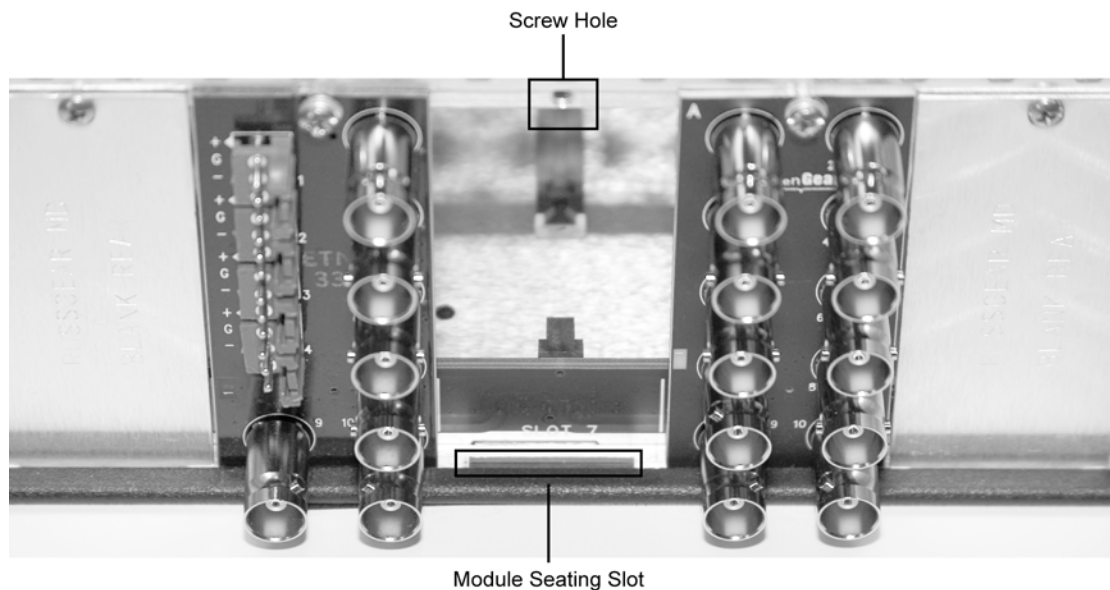

Figure 3. Rear Module Installation in a DFR-8310 Series Frame (UDA-8705A not shown)
4. As shown in **Figure 3**, seat the bottom of the rear module in the seating slot at the base of the frame's back plane.